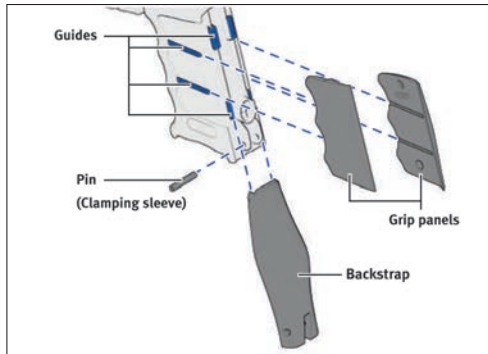
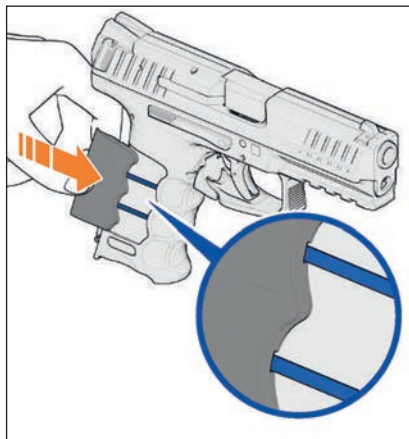

Figure 5 - Installing backstrap and grip panels
Figure 6 - Push the grip panels forward into the guide rails on the frame
1. Using a 2.8 mm (or 7/64") pin punch, remove the pin (clamping sleeve) holding the backstrap in position. Choose the combination of backstrap and grip panels that provide the most comfortable fit for the operator (see Figure 5).
2. Install the two grooves on the inside of each grip panel onto the corresponding tongues located on the outside of the frame (Figure 5 and Figure 6) and push the panels forward until they seat flush into the frame.